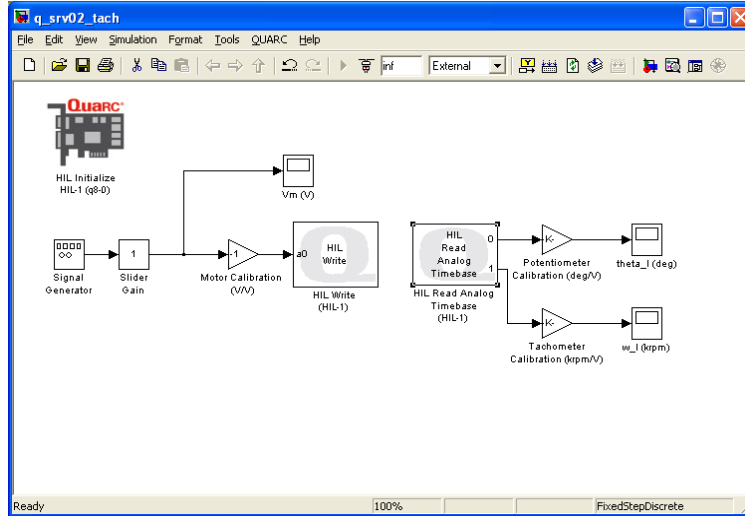

Figure A.12: Simulink® model used with QUARC to send voltage to SRV02 and read the potentiometer and tachometer sensors.
4. Connect the Scope and Gain blocks as depicted in Figure A.12, above.
6. Open the *V_m (V)* and the *w₁ (krpm)* scopes.